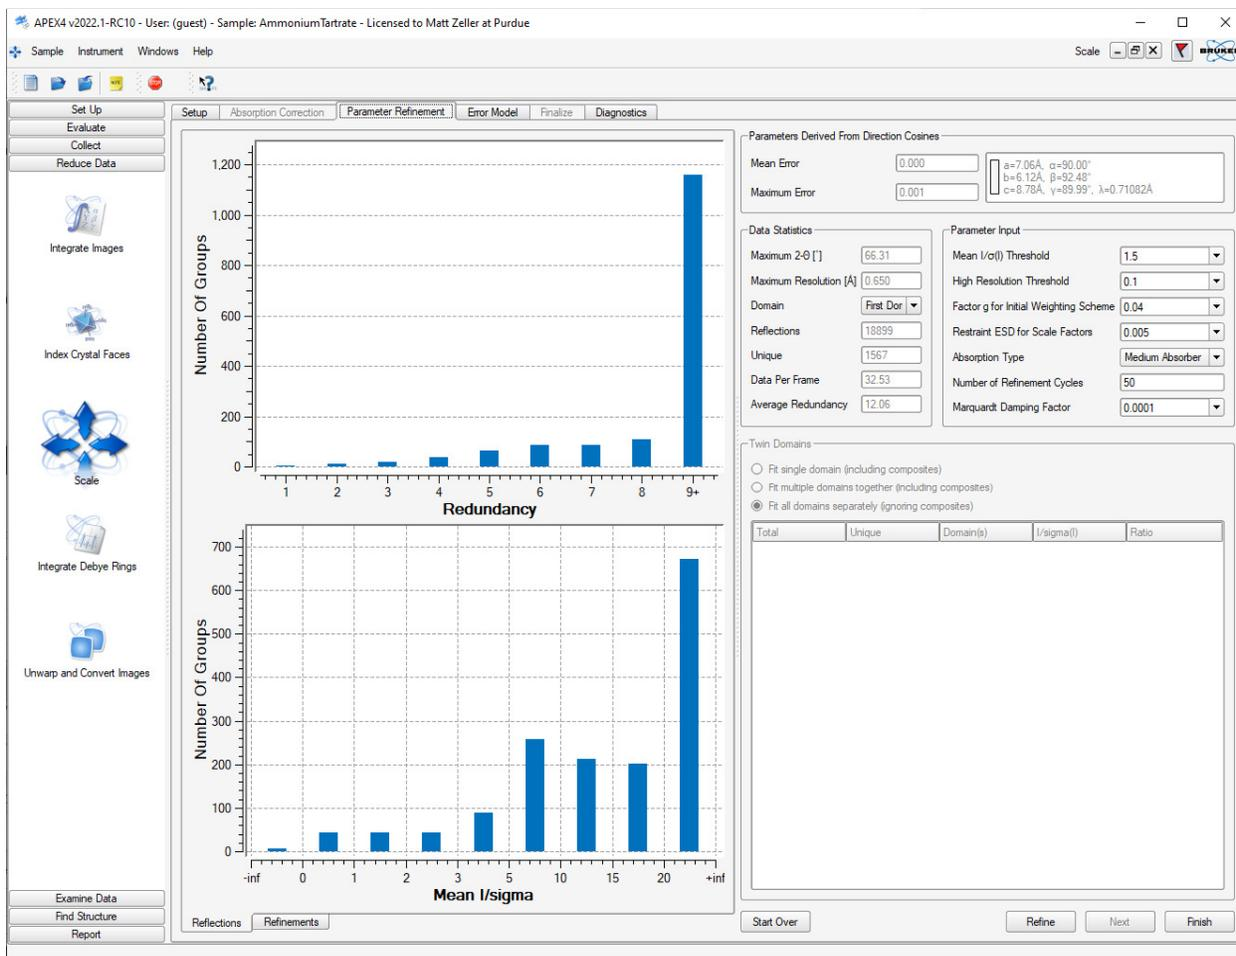

Figure 25, Absorption Correction window (second Scale Window) before refinement
- Click Refine, wait for the refinement to finish and inspect the results. The parameter refinement curve should show a smooth and steady decline (as in Fig. 25) and the final R value should be reasonably low. Large up and down fluctuations in R[%] combined with higher than expected R values could be a sign that scaling and absorption correction effects are highly correlated. This will seldom be a problem with a large beam and penetrating, little absorbed $\text{MoK}\alpha$ radiation. In the rare case when the refinement results appear less than ideal, try dampening scaling by selecting a higher value for Restraint ESD for Scale Factors and repeat the parameter refinement (click Refine once more). Default is 0.005, the maximum allowed value is 0.02.